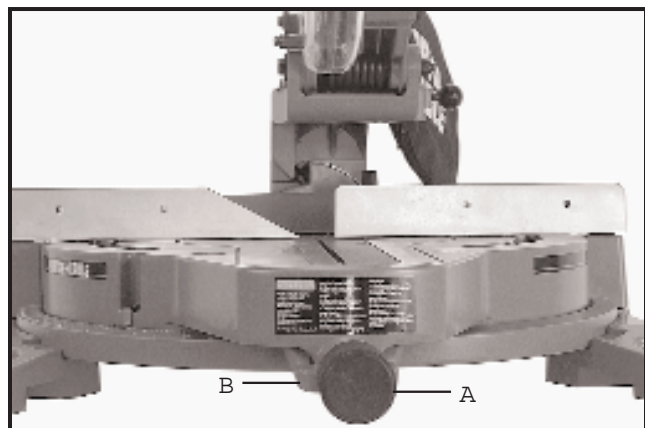

Fig. 17
1. Your compound slide saw will cut any angle from a straight 0 degree cut to 57 degrees right and 47 degrees left. Rotate locking knob (A) Fig. 17, counterclockwise, depress lock lever (B), and move table to desired position.